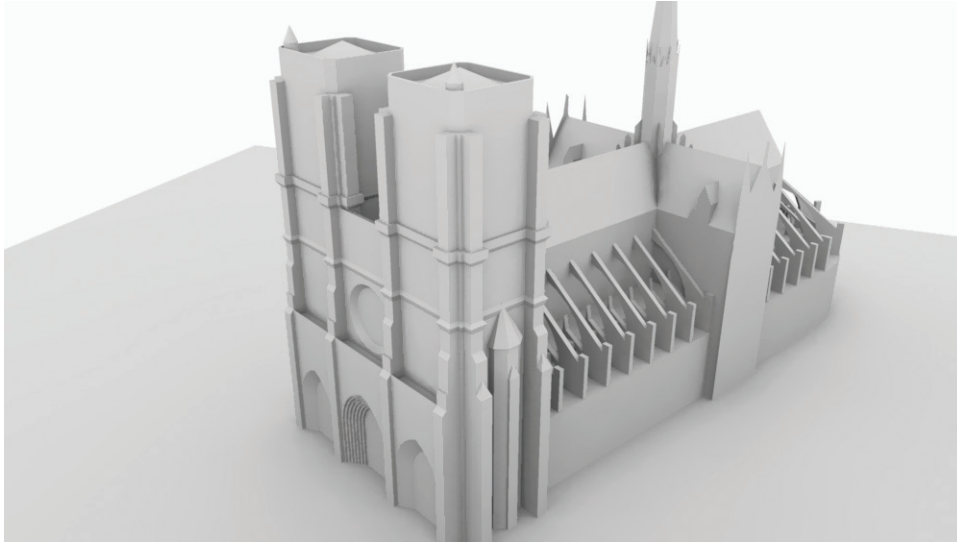

Figure 5.38: Ambient occlusion “clay” rendering of Notre Dame
The first method is general illumination caused by a uniformly colored light that is emitted from an imaginary sky dome (a sphere that fully encompasses your model). Typically, you can simply select a sky color and then use any rendering method provided with your software. Because the result will look very much like an ambient occlusion (AO) rendering, that rendering method can give sufficient results. See **Figure 5.38** for an example.
This method is often used for “clay” renderings (like the one in **Figure 5.38**) where the material has been painted with either the default material or a neutral-color material (such as light gray). Often, this is not even necessary—the rendering software simply ignores all textures during rendering if Clay Render is selected. A benefit of this rendering method is that it allows you to evaluate shapes without being distracted by color and other surface textures.